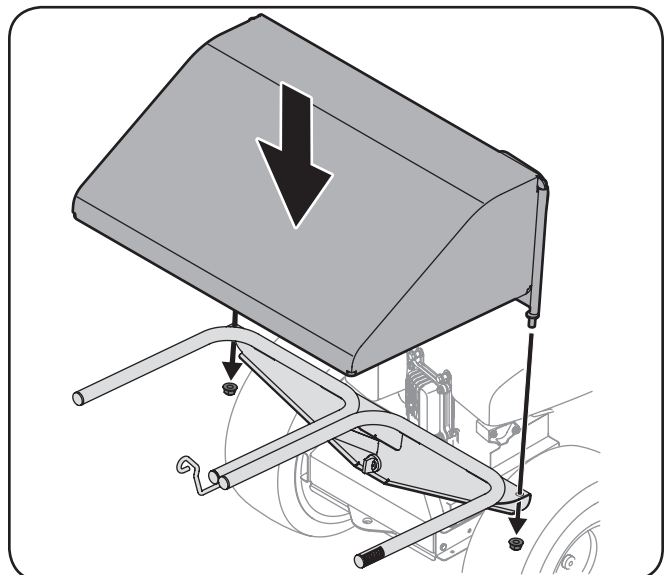

Figure 4-4
5. Attach the bagger hood over the grass-bag mounting assembly as shown in Fig. 4-4. Align the tabs on the hood into the slots on the grass-bag mounting assembly. Secure the bagger hood using two flange lock nuts (712-04150) included in the same hardware pack.